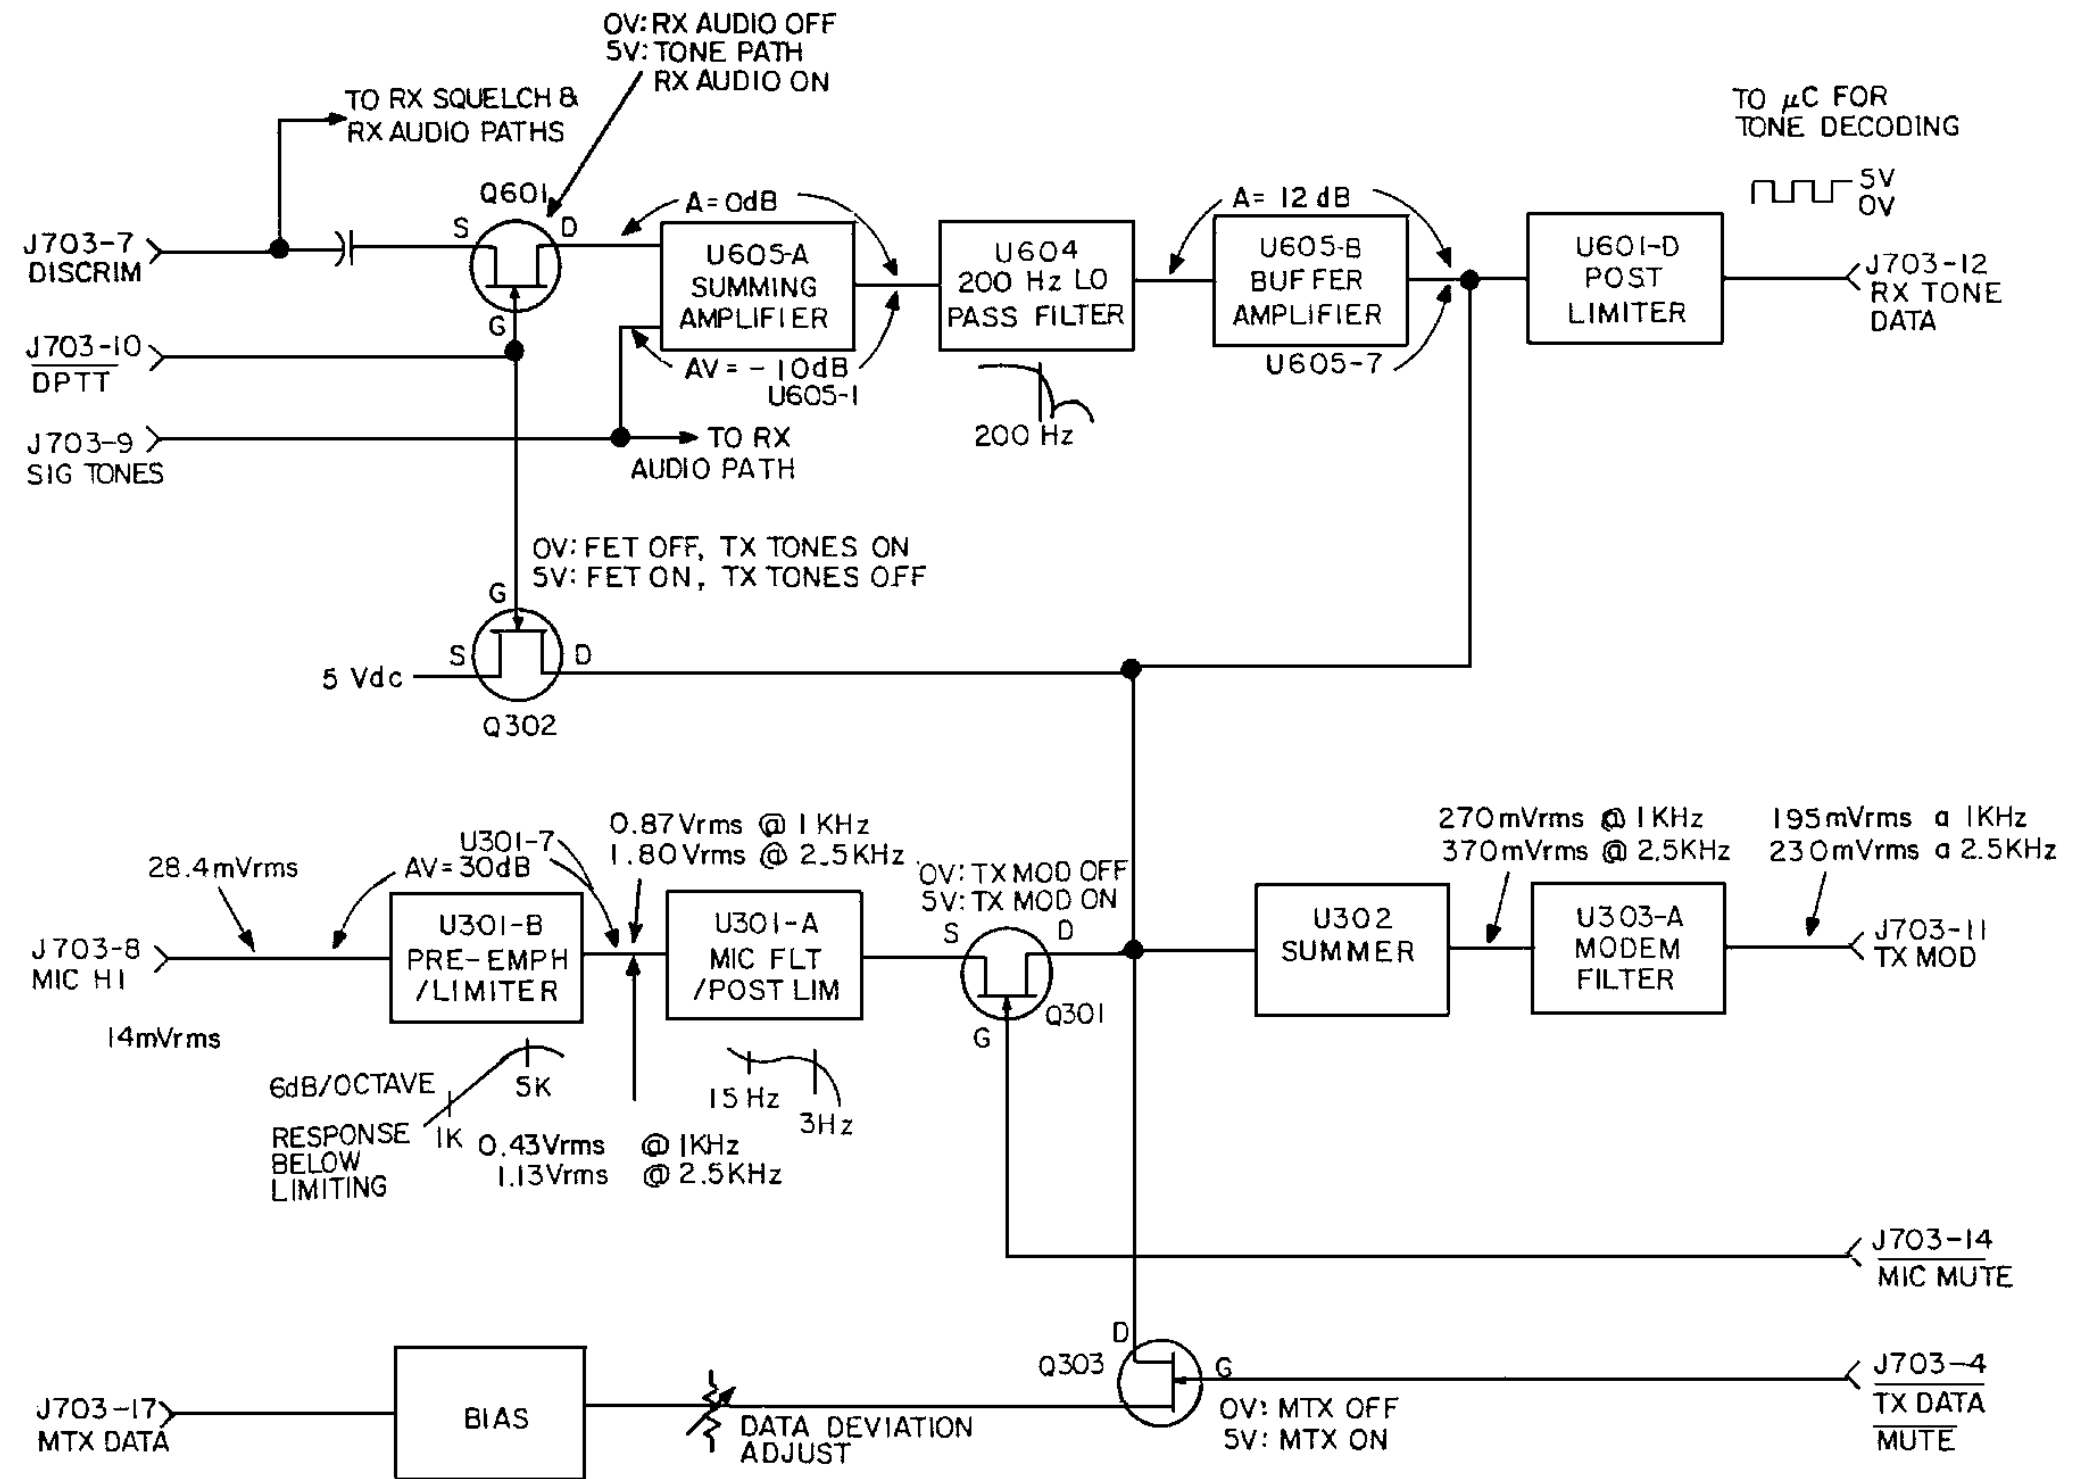

Figure 2 - Transmit Audio Circuits
Transmit signal tones that are generated on the logic board are filtered ~~to~~ remove any voice band harmonics. When the push-to-talk (PTT) is activated, transmit audio and signal tones are summed, and then coupled through a modem filter to the modulator (TX MOD). MTX data is also summed and filtered in the same circuit for modulation. A Block Diagram of the transmit audio circuits is shown in Figure 2.
1. Refer to the Block Diagrams (Figures 2 and 3) for proper signal levels and gains for the vanous audio paths.